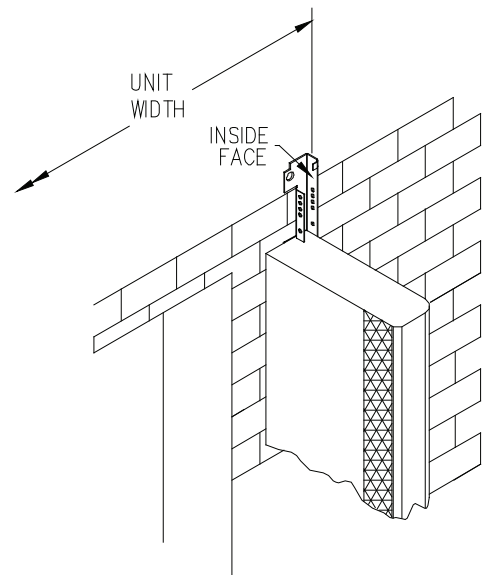

FIGURE 3
7. Attach one side of the side members to the building wall first. Make sure this member is mounted correctly and plumb. Refer to "Fastening Methods" section of these instructions for the correct fastening method for the building style the side members are being installed on. Attach the second side member, using the first member and the marks on the wall as a reference. When finalizing the side members unit width, as noted in Step 1, make sure that the distance between the inside faces of the mounting brackets are least +1/8" wider than unit width but no more than 1/4" for ease of installation. Unit widths outside this range may be adjusted after by loosening side member clip brackets and header anchors. For best results, keep the unit width of the mounting brackets as close to above specifications. (See Figure 3)